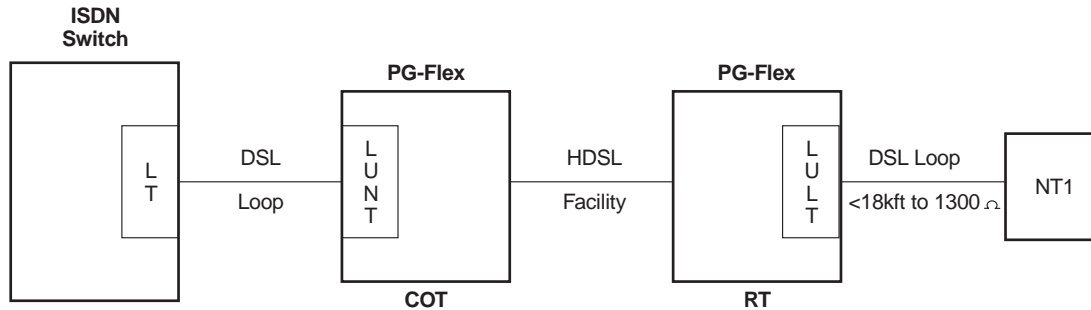

Figure 1. Typical ISDN Configuration
ISDN is a networking standard that provides end-to-end, simultaneous handling of digitized voice and data traffic on the same link. Figure 1 shows a typical ISDN configuration. The FLC-706 connects an ISDN Digital Subscriber Line (DSL) to the Central Office (CO). Line Termination (LT) in the CO occurs at the ISDN switch. The DSL loops are U-interface. The FRC-756 provides Line Unit Line Termination (LULT) at the RT. The subscriber site has the Network Termination (NT1).
Verify outgoing calls for both B channels, for example, calls from the NT1 to the LT (refer to Figure 1 on page 2):
Verify incoming calls for both B channels, for example, calls from the LT to the NT1 (refer to Figure 1 on page 2):